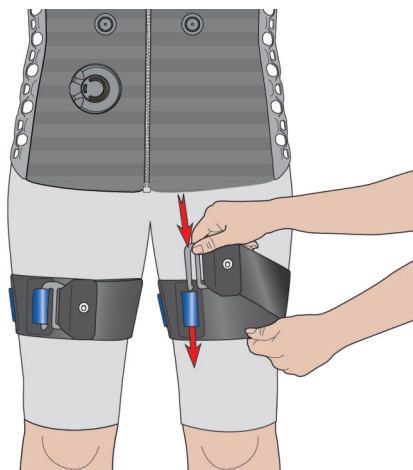

Fig. 45: Closing the i-body® strap flex
15. ➤ Insert the hook into one of the loops (Fig. 45). Adjust the width so that it is comfortable for the athlete and at the same time provides enough contact pressure.